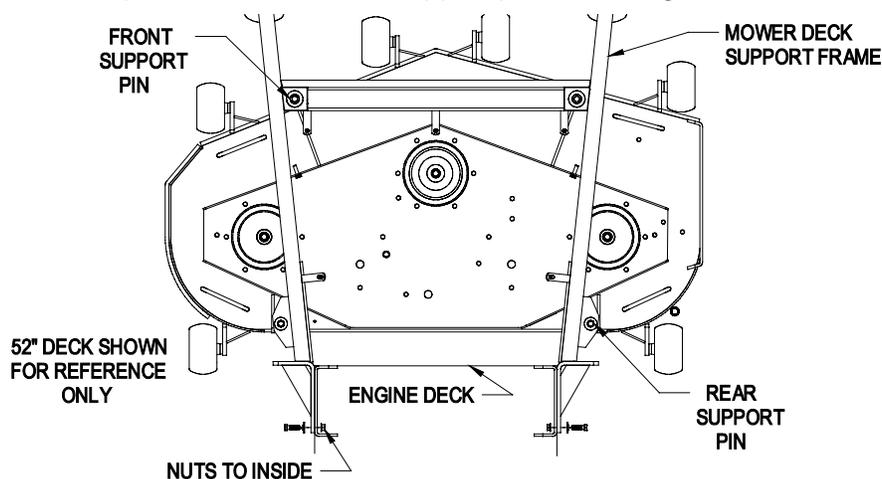

FIGURE 1
- 3.5.2 Remove mower deck support frame from mower deck by removing the two hairpins and spacers from the front deck support pins and by removing the two hairpins and spacers from the rear deck support pins. See Figure 1.
- 3.5.3 Install mower deck support frame to tractor engine deck and secure using (8) 3/8-16 x 1 1/4" screws, (8) disc spring washers and (8) whizlock nuts from bolt bag. See Figure 1.
- NOTE:** Place spring washer cone side against bolt head (cupped side away from head) and install to outside of support frame as shown in Figure 1. Install with whizlock nuts to the inside of engine deck. Tighten until spring washers are flat.
Align and re-install the mower deck support pins into the support frame. Install the two spacers and hairpins onto the front support pins and the two hairpins and spacers onto the rear support pins. See Figure 1.